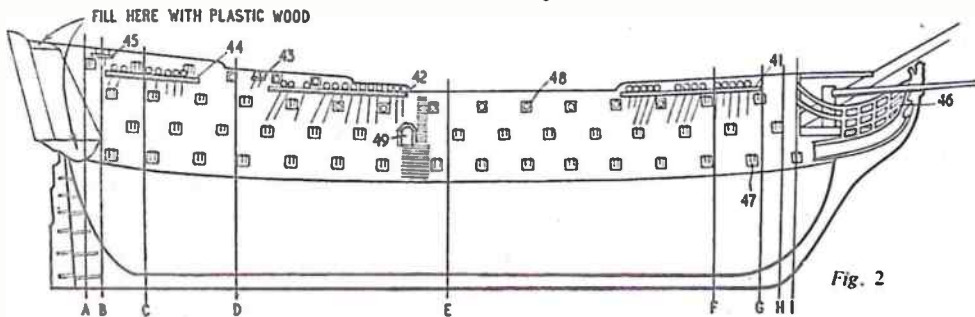

Fig. 2
the positions indicated in the side view (Fig. 2). Shape both sides of the hull according to these templates applied in their correct positions. Shape with a modelling knife, rasp or wood file, giving a final smooth finish with glass-paper. Now glue the halves of the hull on either side of the keel, binding with elastic or string until completely dry.
wood to the top and bottom as shown in Fig. 2. When this is completely dry, shape as shown in Fig. 4B and in the illustration of the finished model. These, of course, will also be painted.
Channels 41 and 45 are cut from 1/4 in. wood drilled ready to take the shrouds, and then glued to the sides (Fig. 2).
Pieces 46 are cut from thin card and glued in the positions indicated in Fig. 2. Note that a bit of waste has been allowed at the ends for trimming.
Gun-ports (47) are cut from thin card and glued to the sides (Fig. 2). Note that six of these, three on each side, will be glued over the open position in the
bulwarks (26). Next make the remaining lids (48) bending them as shown on the design sheet and gluing in position (Fig. 2), and then piece 49 can be added.